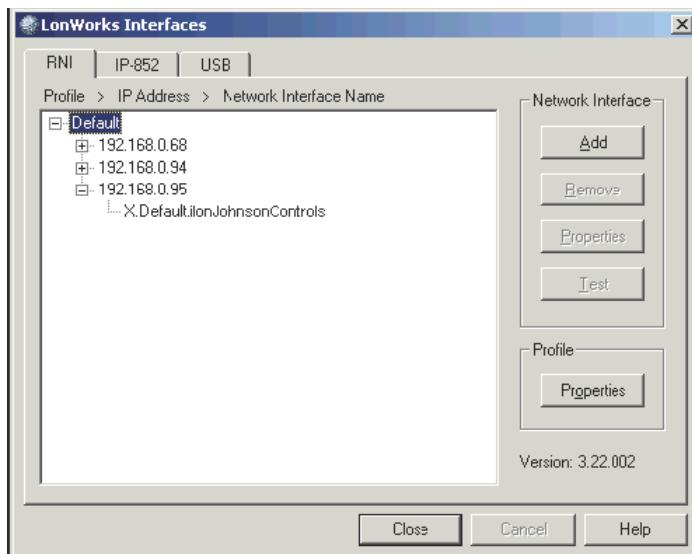

Figure 20: LONWORKS Interfaces Dialog Box
2. Double-click the LONWORKS Interfaces icon. The LONWORKS Interfaces dialog box appears (Figure 20).